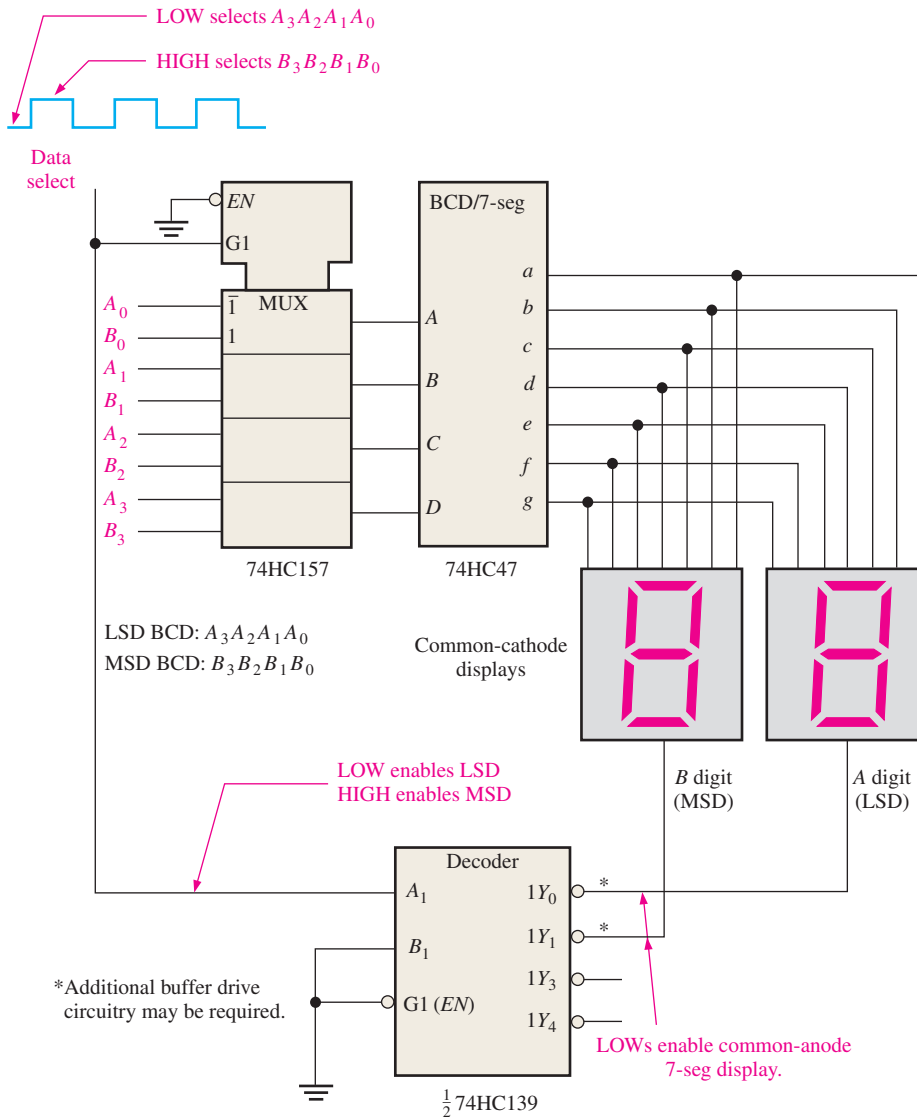

FIGURE 6-49 Simplified 7-segment display multiplexing logic.
Figure 6-49 shows a simplified method of multiplexing BCD numbers to a 7-segment display. In this example, 2-digit numbers are displayed on the 7-segment readout by the use of a single BCD-to-7-segment decoder. This basic method of display multiplexing can be extended to displays with any number of digits. The 74HC157 is a quad 2-input multiplexer.
- Briefly describe the purpose of each of the following devices in Figure 6-49: